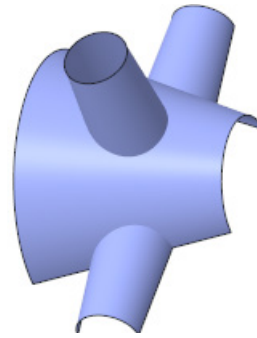

Figure 15-108 Model after creating the fourth blend surface
8. Choose the **OK** button to exit the sketcher environment. Choose the **OK** button from the dashboard to exit it. The model, similar to the one shown in Figure 15-108, is displayed in the drawing area.